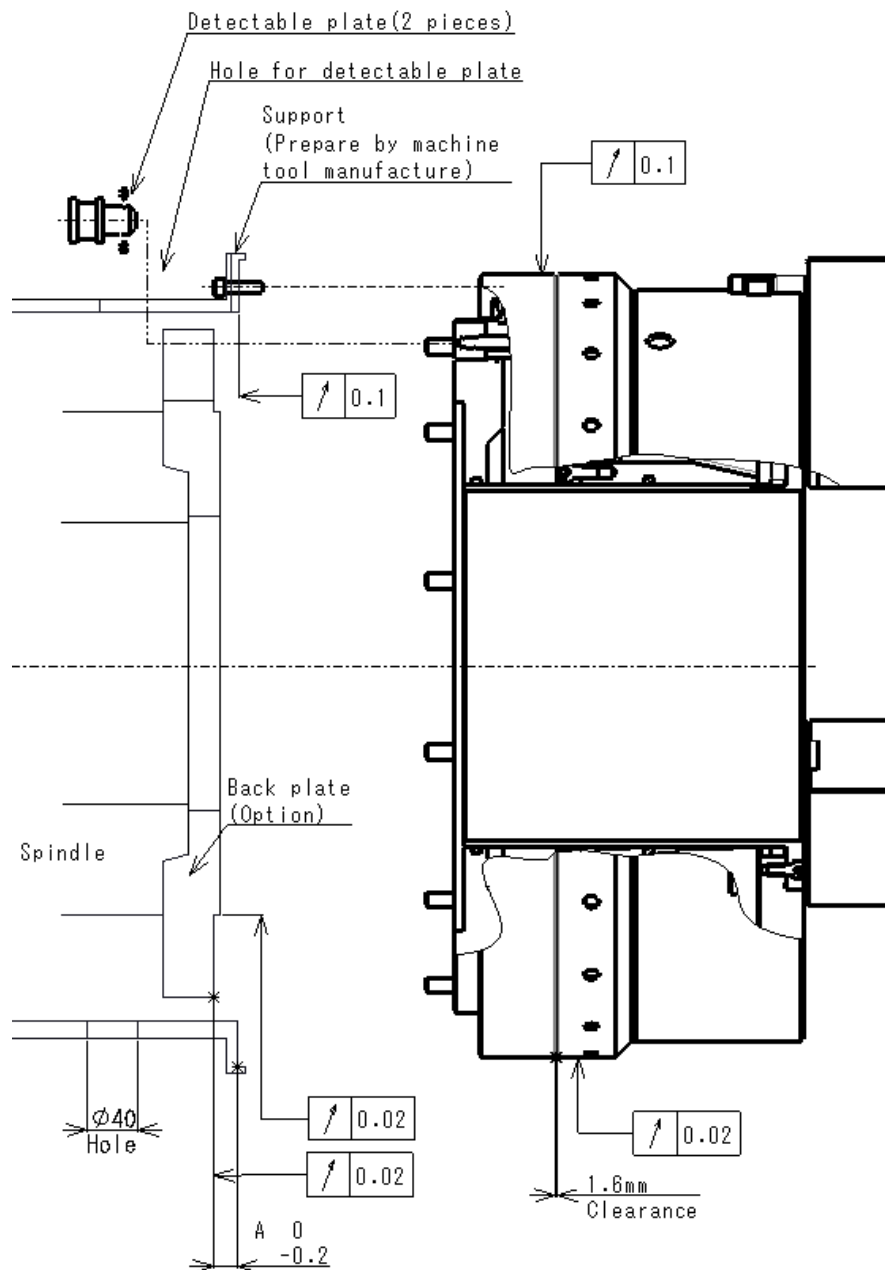

Fig.14
- Run-out of the back plate directly affects the process precision. The end surface run-out of the back plate, spigot joint diameter run-out must be 0.02 mm or less. (Refer to Fig.14)
- Provide a support to secure the air supply ring to the lathe body. Refer to the respective outline drawings for dimensions. The structure of the support must be designed so that the A dimension of the support can be adjusted within -0.2 to 0 mm so that the runout of the support face is less than 0.1 mm and the gap between the air supply ring and the body is 1.6~1.8 mm (target value 1.6 mm), as shown in Figure 14.
- Provide an air escape hole (over  $\phi 40$ ) underneath the support as shown in Fig.14. This hole escapes the air coming out of a gap between supply ring and chuck. The jaw operating speed slows unless the hole is provided.
- Establish a hole for the detectable plates in the support side because you can attach or remove the chuck while fixing the air supply ring on the support like fig.14. All except for the chuck attachment and removal time block the hole up by a lid so that coolant and chips doesn't enter in the support.
- Adjust the runout occurring when the support and the air supply ring are mounted to be less than the value shown in Fig.14. If the air supply ring comes into contact with the body, seizure may occur during chuck rotation.